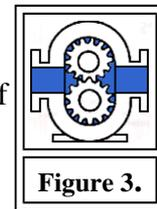

Figure 3.
**External Gear.** External gear pumps (Figure 3) also use gears which come in and out of mesh. As the teeth come out of mesh, liquid flows into the pump and is carried between the teeth and the casing to the discharge side of the pump. The teeth come back into mesh and the liquid is forced out the discharge port. External gear pumps rotate two identical gears against each other. Both gears are on a shaft with bearings on either side of the gears.